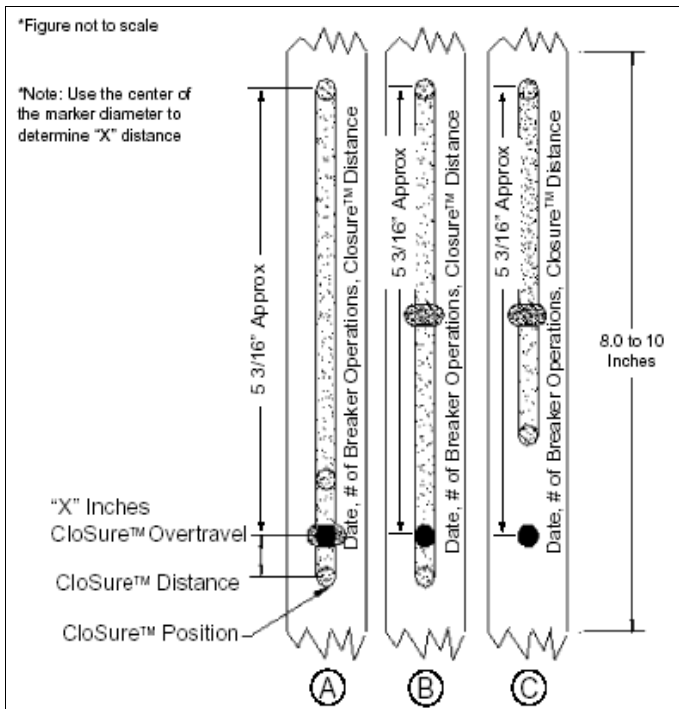

Figure 6-18 Illustrative Testing Tape Sample
Step 13 - Evaluate the CloSure™ performance by comparing the test tape with the illustrations in Figure 6-18. If the marking is similar to 6-18A, measure the over travel "x": If "x" is greater than or equal to 0.6 inches, the circuit breaker performance is satisfactory. If "x" is less than 0.6 inches or if the marking is similar to 6-18B or 6-18C, immediately contact the Product Integrity Center for Technical Support at (412) 787-6518.